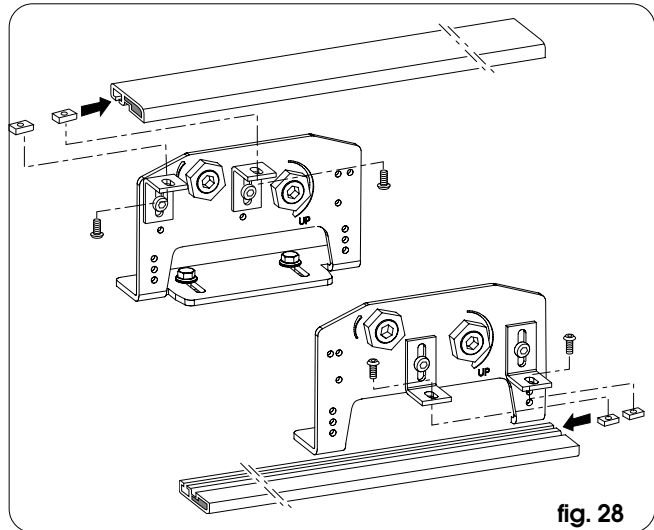

fig. 28
- With the leaves open, secure the drive shafts to the trolleys with the supplied M5 tie-screws (fig. 28) so that the relevant fitting on the belt is adjacent to the pulley (transmission pulley or motor).
- With the leaf closed, secure the drive shaft to the trolley with the supplied M5 tie-screws (fig. 28) so that the relevant fitting on the belt is adjacent to the pulley (transmission pulley or motor).